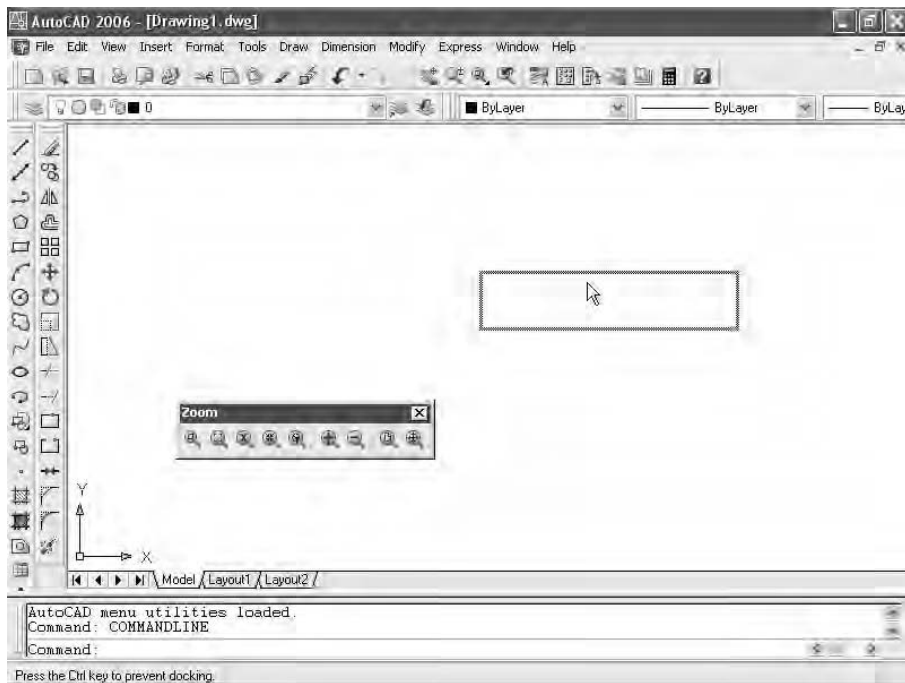

FIGURE 1.7: Dragging the Zoom toolbar
3. Click and drag the Zoom toolbar to the right side of the screen. You will notice that as you drag it, the toolbar stays put, and you are dragging a rectangle of the same size as the toolbar (see Figure 1.7). As you drag the rectangle to the right of the drawing area and begin to move it off the drawing area onto the right side of the screen, the rectangle becomes taller and thinner.